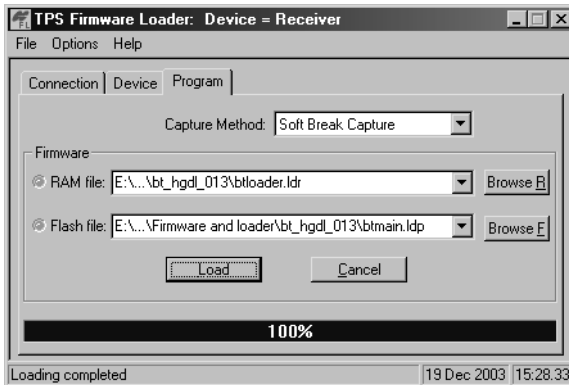

Figure 4-24. Bluetooth Firmware Load Complete
4. Click **Load** and wait until 100% of the files load into your receiver (Figure 4-24).